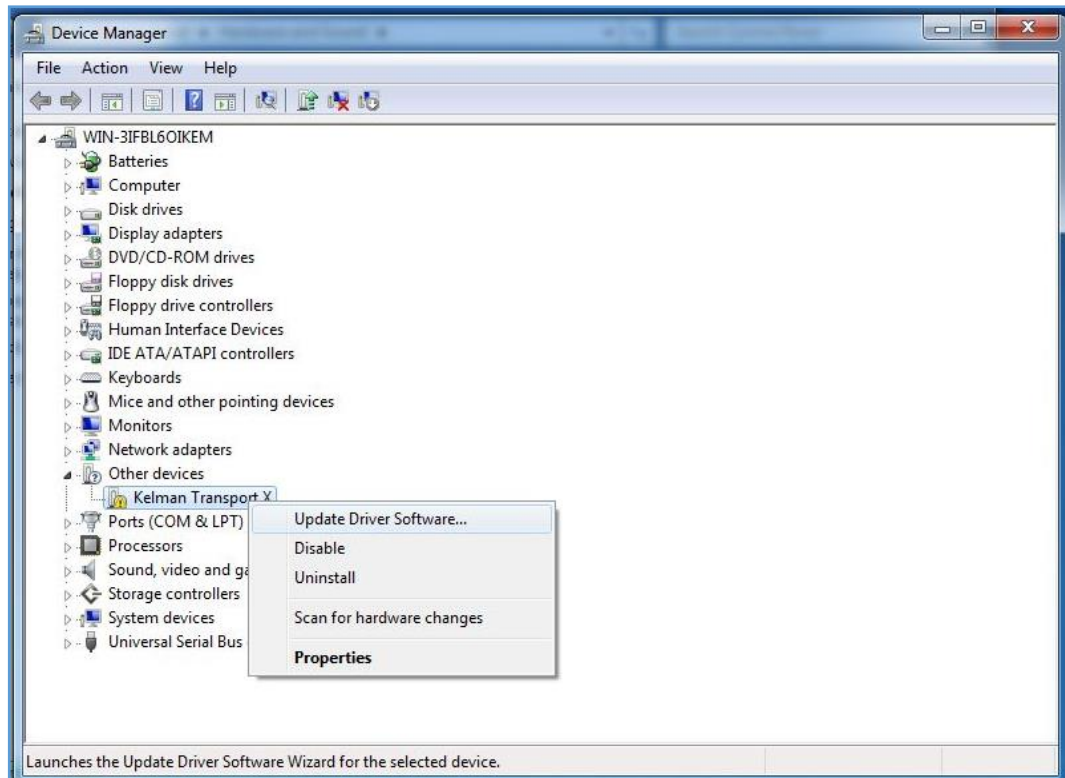

Figure A-10: Device Manager – Update Driver Software
- Right-click Kelman Transport X and select Update Driver Software as shown in Figure A-10.